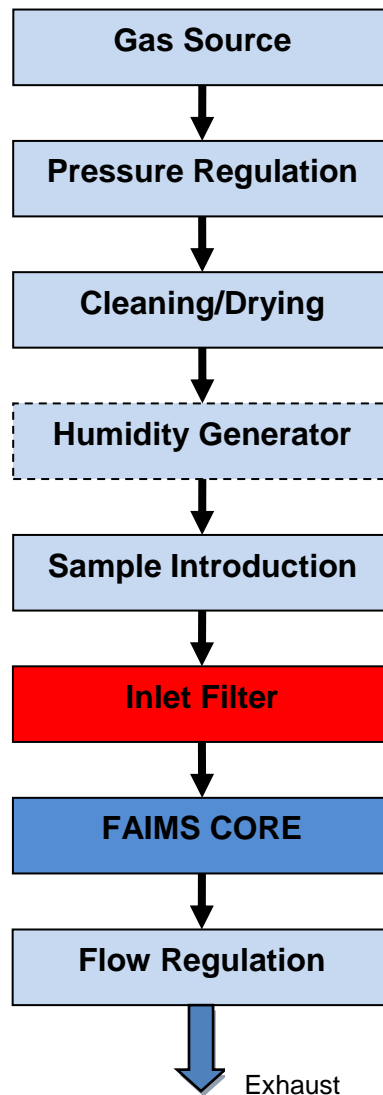

Figure 5. The gas flow path setup required for a FAIMS CORE system
- Connect the gas flow cables (inlet and outlet) and pump as required to be able to get the desired gas flow rate and pressure inside the instrument. A basic schematic for the ideal gas supply setup for the FAIMS Core unit is given in Figure 5.